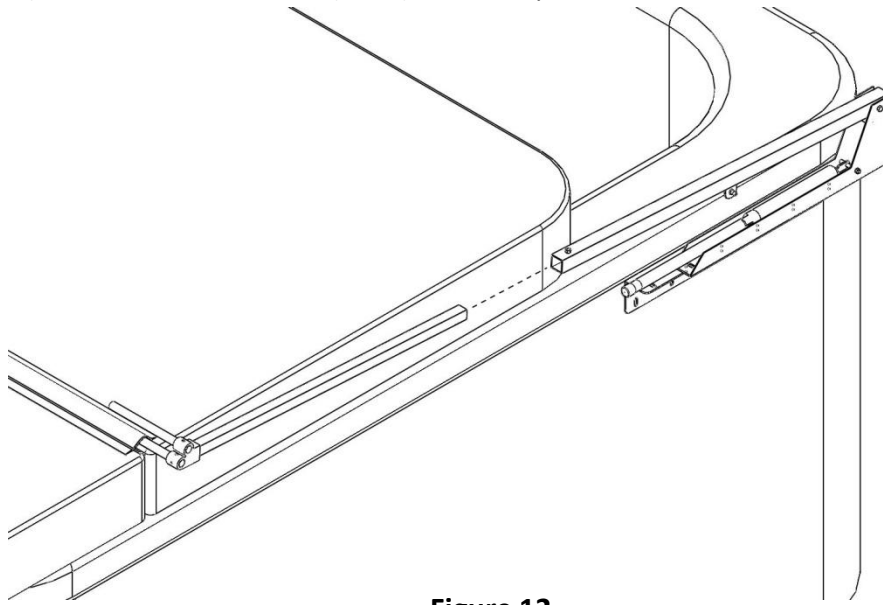

Figure 12
12. Align the Extension Arm (cvDD) so that it will slide into the Pivot Arm (cvCC). Slowly and evenly slide the Pivot Arm (cvCC) into the Extension Arm (cvDD) until the spa cover is centered over the spa, as shown in Fig 12.